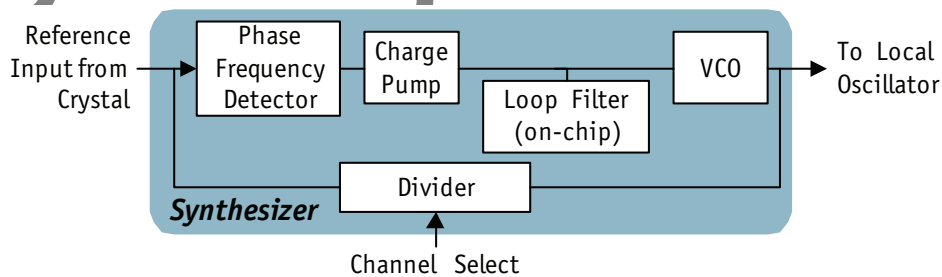

Figure 2-3. Radio Synthesizer Block Diagram
The radio supports an on-chip synthesizer to generate local oscillator (LO) frequencies for the receiver and transmitter mixers. Figure 2-3 shows the synthesizer topology.